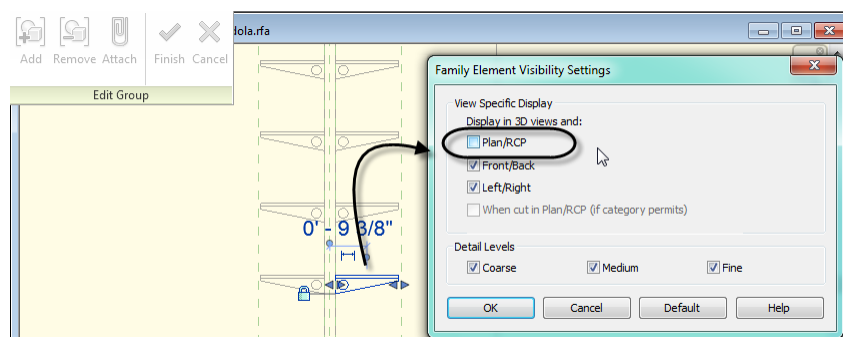

Figure 39
4. In the “Family Element Visibility Settings” dialog, uncheck the Plan/RCP box and then click OK (see Figure 39).